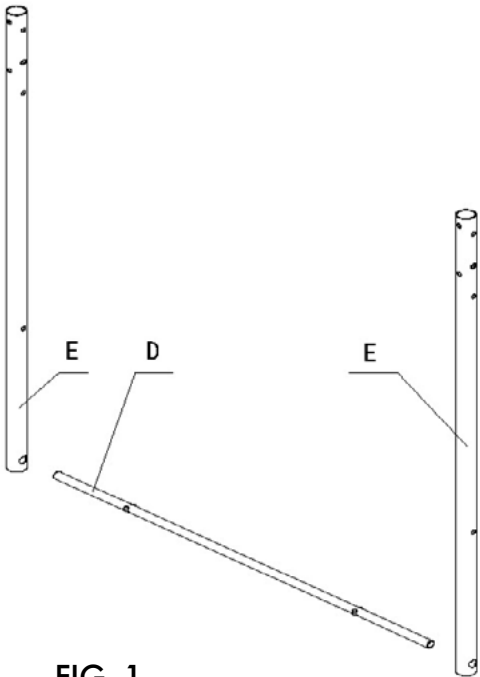

FIG. 1.
Step 1. Insert the Vertical Straight Tube (E) into the Axle (D). See FIG. 1.